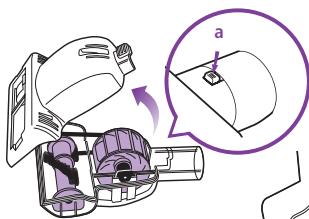

Fig. 24
- 1 Slide the locking latch (a) forward and tilt the bottom cover upward to remove. (Fig. 24)